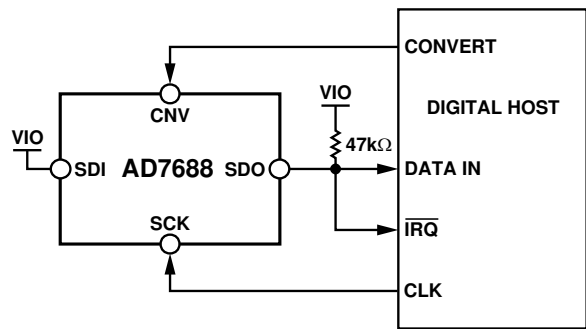
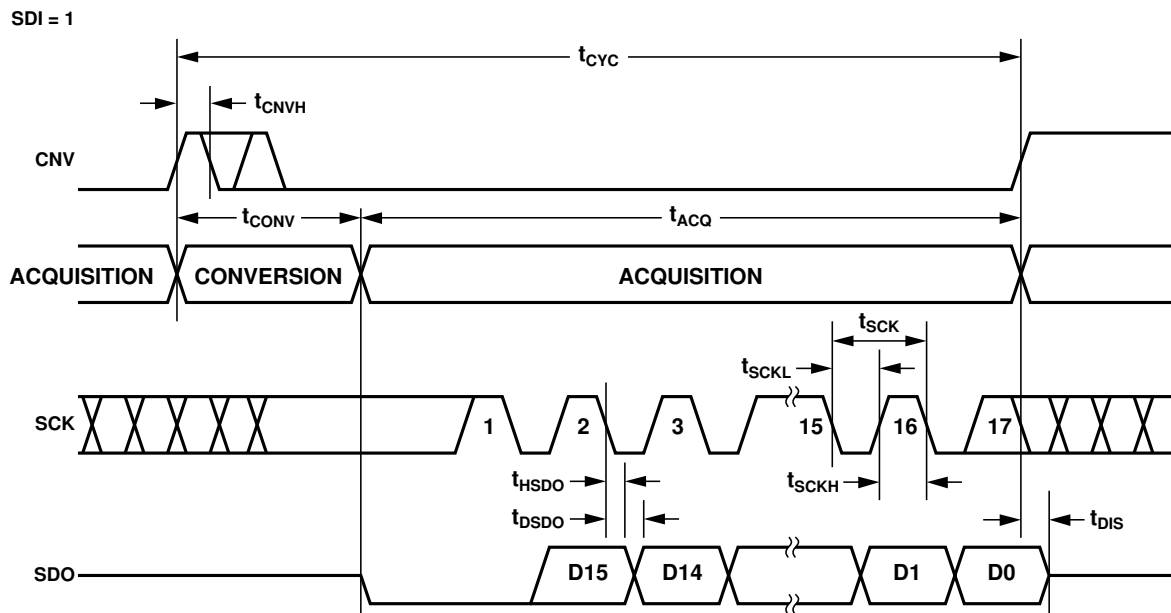
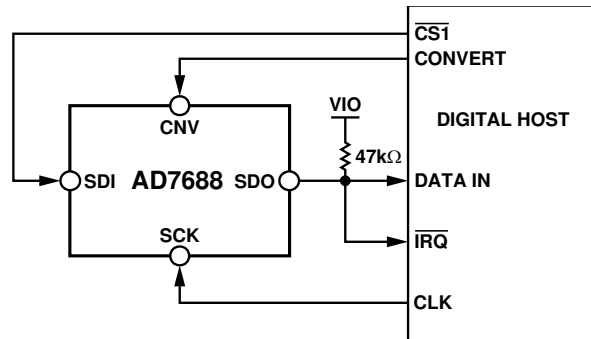
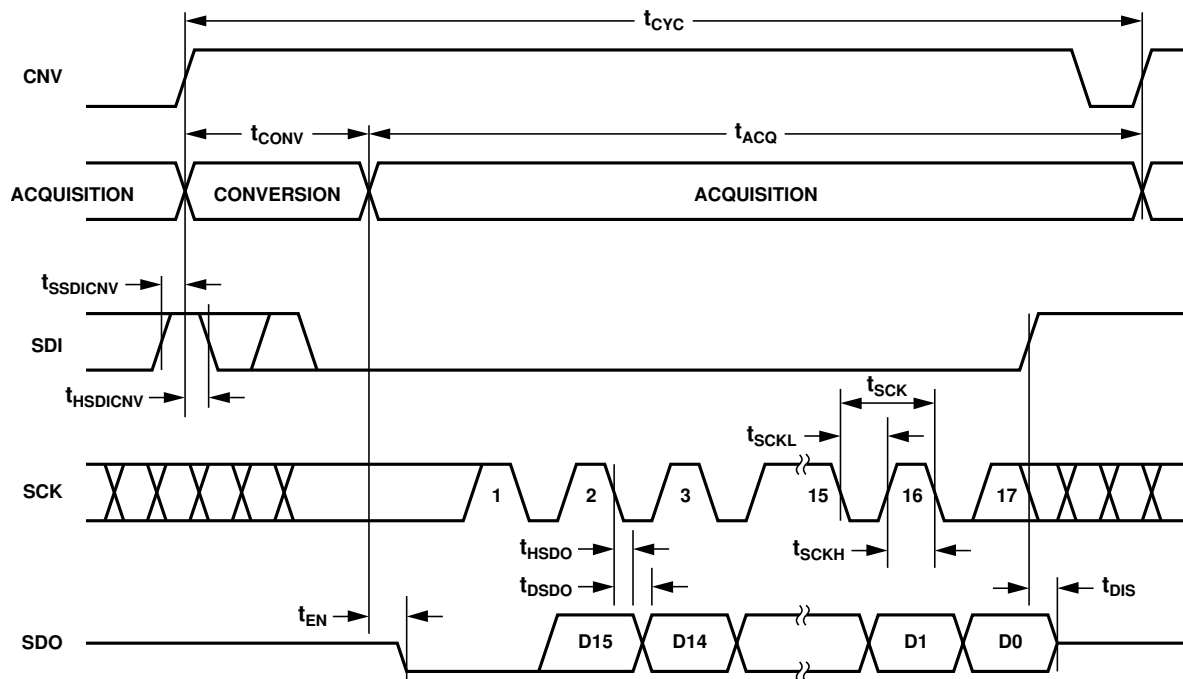

Figure 36.  $\overline{\text{CS}}$  Mode 3-Wire with BUSY Indicator Connection Diagram (SDI High)
Figure 37.  $\overline{\text{CS}}$  Mode 3-Wire with BUSY Indicator Serial Interface Timing (SDI High)
Figure 40. CS Mode 4-Wire with BUSY Indicator Connection Diagram
Figure 41. CS Mode 4-Wire with BUSY Indicator Serial Interface Timing
- In the  $\overline{\text{CS}}$  mode, if CNV or SDI is low when the ADC conversion ends (Figure 37 and Figure 41).
The connection diagram is shown in Figure 36 and the corresponding timing is given in Figure 37.
The connection diagram is shown in Figure 40 and the corresponding timing is given in Figure 41.